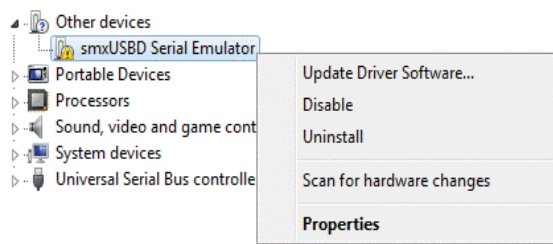

Figure 82 Device Manager Windows 8/8.1
9. Under **Other devices**, right click on **smxUSB Serial Emulator** and select **Update Driver Software** (Figure 82).